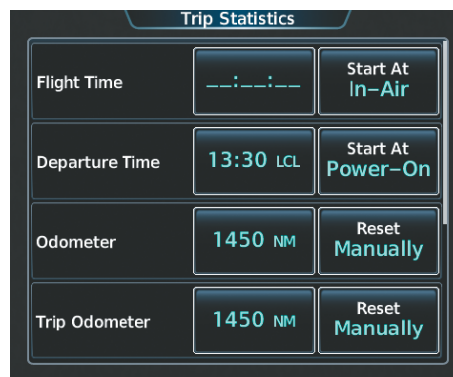

Figure 1-47 Trip Statistics Options
- 2) Touch the Flight Time **Start At** Button (Figure 1-47).
- 2) Touch the Odometer **Reset** Button (Figure 1-47).
- 2) Touch the Trip Odometer **Reset** Button (Figure 1-47).